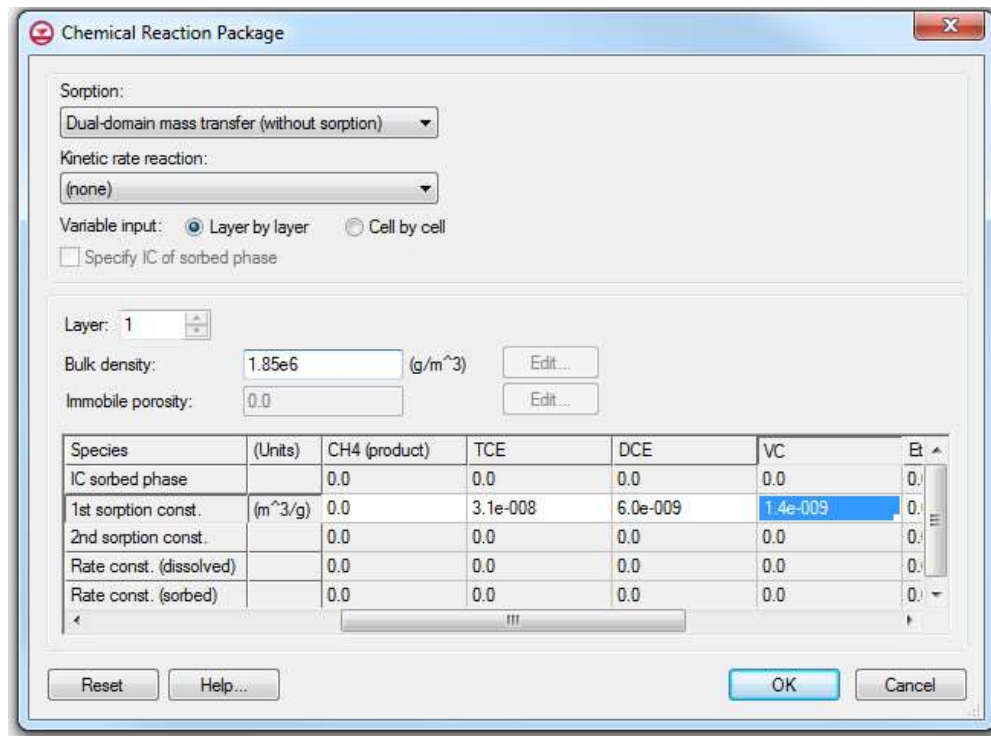

Figure 2 Chemical Reaction Package dialog
3. Enter the values shown in Figure 2 for *Bulk Density* and *1st sorption const.* values for TCE, DCE, and VC.